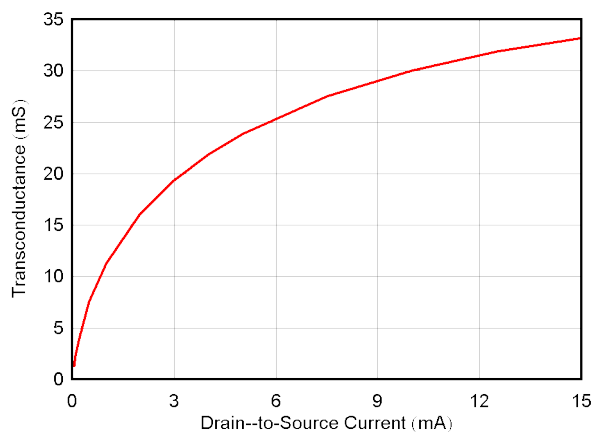
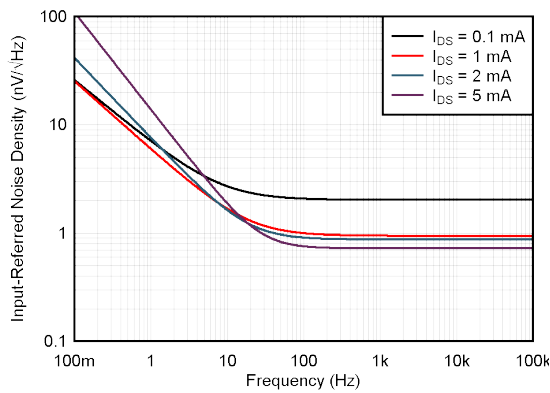
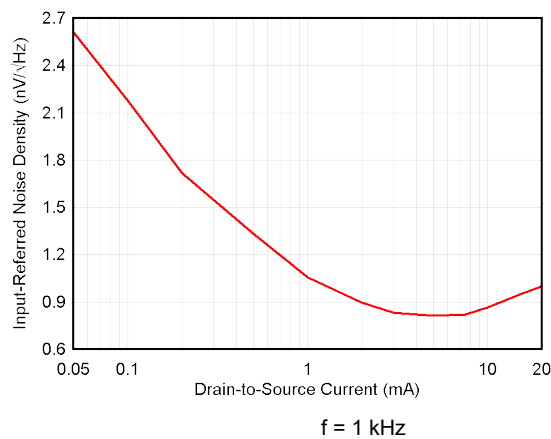
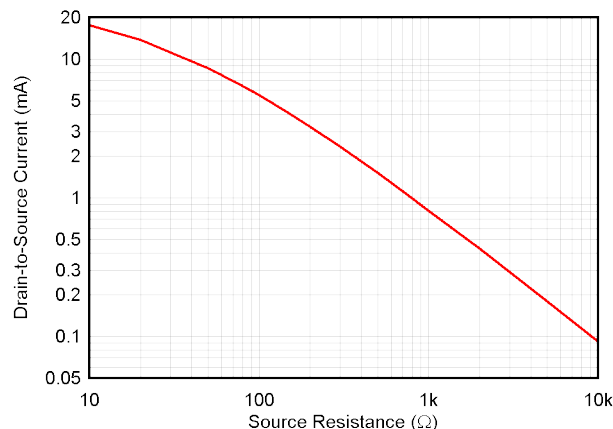

Figure 6-4. Common Source Transconductance vs Drain-to-Source Current
Figure 6-9. Input-Referred Noise Density vs Frequency
Figure 6-11. Input-Referred Noise Spectral Density vs Drain-to-Source Current
Figure 9-3. Drain-to-Source Current vs R_S , $V_{DS} = 5\text{ V}$
Designs that feature operational amplifiers (op amps) as the primary gain stage are common, but these designs are not able to achieve the lowest possible noise as a result of the inherent challenges and tradeoffs required from a full operational amplifier design. Noise in JFET designs can be evaluated in two separate regions: low-frequency flicker noise and wideband thermal noise. Flicker, or $1/f$ noise, is extremely important for systems that require signal gain at frequencies less than 100 Hz. The JFE150 achieves extremely low $1/f$ noise in this range. Thermal noise is noise in the region greater than 1 kHz and depends on the gain, or g_m , of the circuit. The g_m is a function of the drain-to-source bias current; therefore, thermal noise is also a function of drain-to-source bias current. Figure 6-9 shows both $1/f$ and thermal noise with multiple bias conditions measured using the circuit shown in Figure 7-1.
Generally, higher gain results in improved noise performance. Gain increases as the bias current is increased as a result of increasing gm (see Figure 6-4). As a result, the input-referred noise decreases as bias current is increased (see Figure 6-9). Any JFET design must make a tradeoff between current consumption and noise performance. The JFE150, however, delivers significantly lower noise performance than most operational amplifiers at the same current consumption. The bias current (I_{DS}) is set by the value of the source resistor, R_S , and the threshold voltage, V_T , of the JFE150. Figure 9-3 is a graph showing nominal I_{DS} vs R_S .
R_S	Source resistor. Used to set bias of JFET; see 图 9-3. Resistor thermal noise directly impacts noise performance.
- The JFE150 bias current is set by selecting the desired bias current and noise tradeoff (see Figure 6-11). The input-referred noise is dominated by the JFE150 bias current and gain. To set the bias current point, adjust the source resistance according to Figure 9-3.